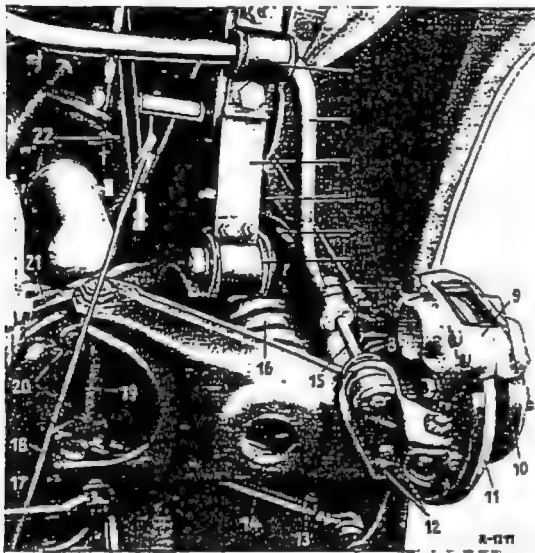

Fig. 33-1/10
chassis base panel together with the torsion bar mounting (Fig. 33-1/12). Before the hexagon nuts are slackened, the position of the flat springs should be marked on both sides by means of a scribe.
5. Unscrew the wing nut (8) for the hand-brake adjustment underneath the tunnel (Fig. 33-1/11).